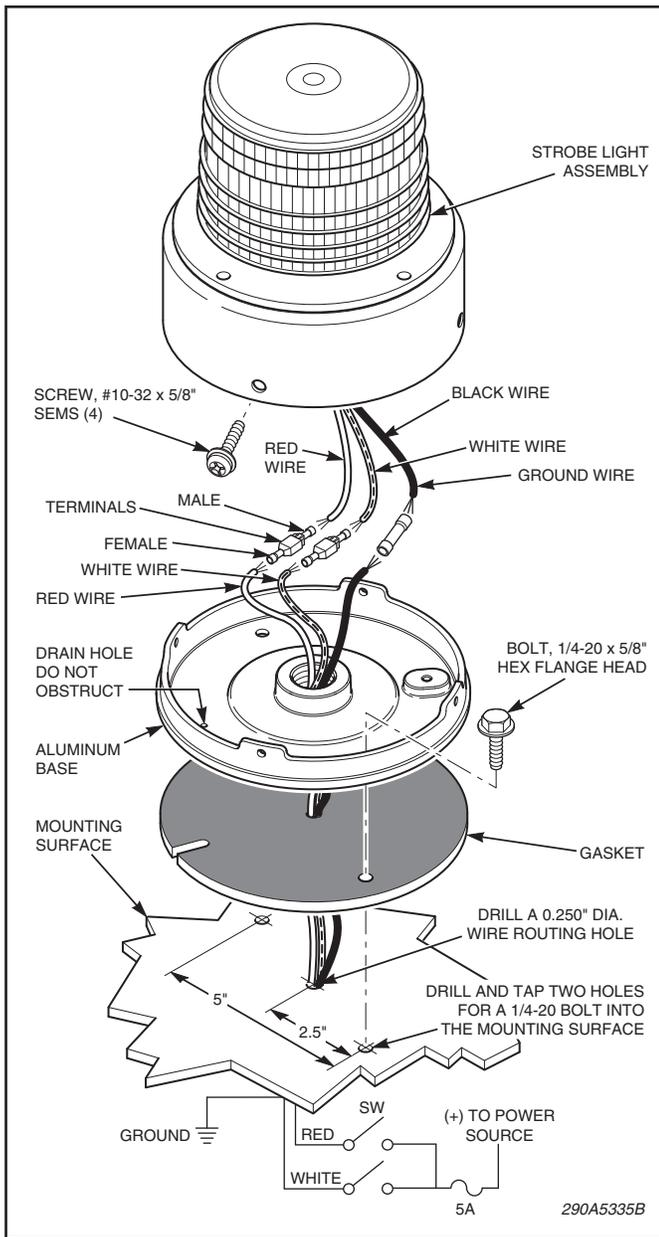

Figure 2.
4. Ensure that the Dome Gasket rests flat on the base (see Figure 2) and reassemble the light.
See Figures 2 and 4 and proceed as follows:
The strobe operates in the high power mode if the white wire is left unconnected, and it operates in the low power mode when the white wire is connected to the power supply's positive terminal. If desired, connect the white wire to one side of a user-supplied switch with a current handling capacity of at least one ampere. Connect the remaining switch terminal to the in-line fuseholder with user supplied wire as shown in Figures 2 and 4.